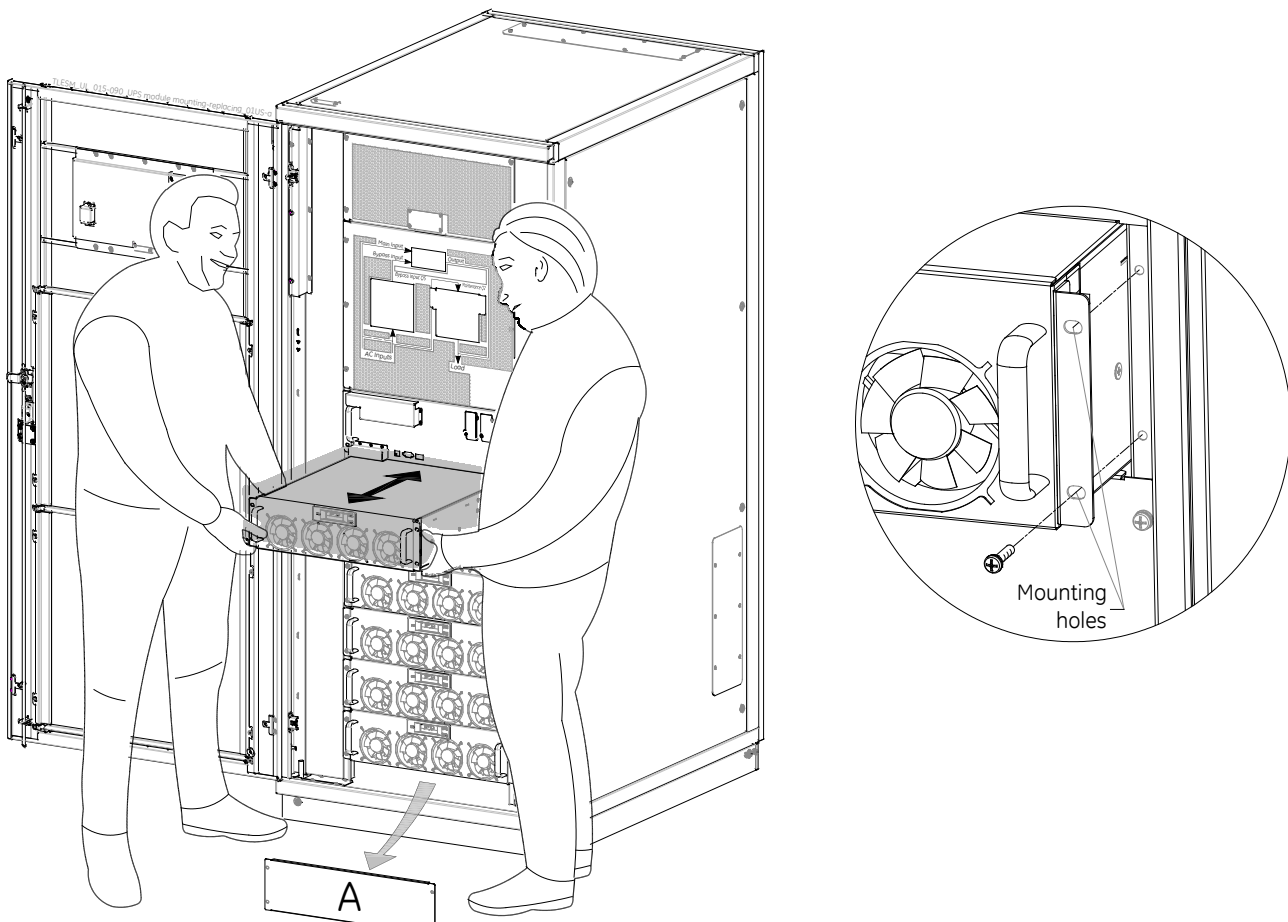

Fig. 4.6.2-1 Installation of the power modules
5. Fix the power module to the cabinet through the mounting holes on both sides at the front plate of the power module (see Fig. 4.6.2-1 at right).